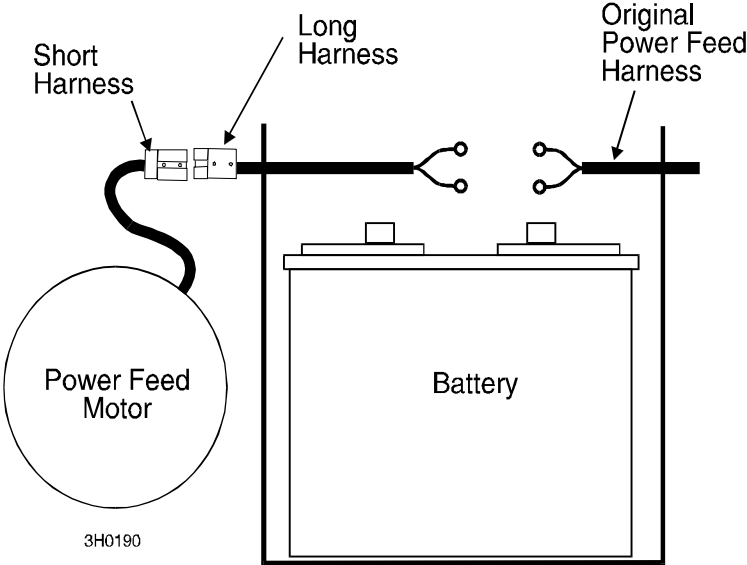

FIG. 1-7
See Figure 1-7.
3. Connect the red harness wire to motor terminal "B". Connect the black harness wire to motor terminal "A". Replace the terminal nuts being sure the wires are secured in a position so that the ring terminals will not contact the motor cover. Replace the motor cover and screws so that the harness is positioned at the top left of the motor. **See Figure 1-7.**